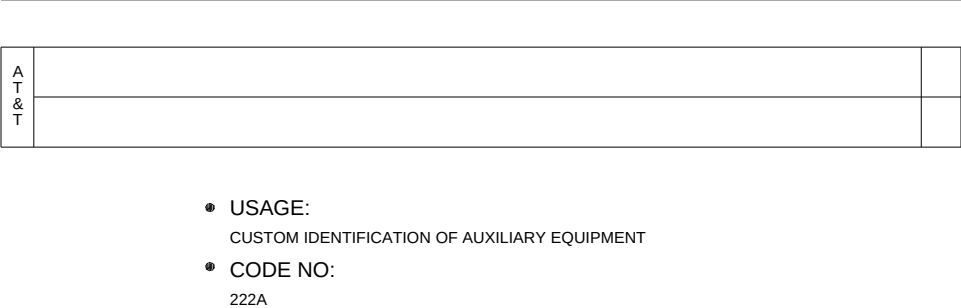

Figure 9-28. Blank Auxiliary Labels
The blank label shown in Figure 9-28 identifies auxiliary equipment and must be filled in manually.
- (6) Blank labels (Figure 9-28)